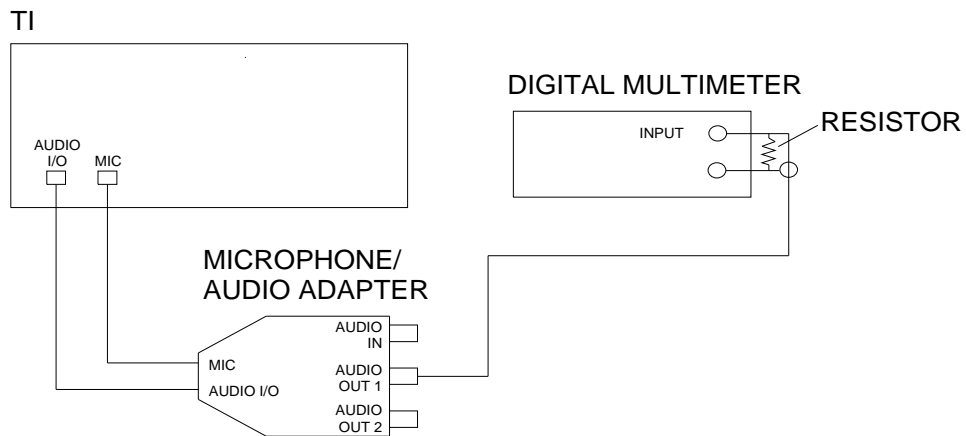

Figure 8.
4.26.2 Connect equipment as shown in Figure 8.